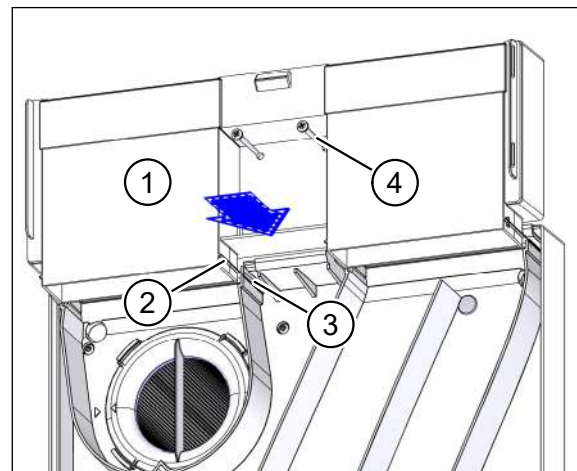

Fig. 43: Inserting the duct adapter and screwing in place
- ▶ Attach the duct adapter (item 1 in Fig. 43) so that the tabs (item 2 in Fig. 43) line up with the recesses (item 3 in Fig. 43) on the ventilation unit.
- ▶ Mark the holes for the two 4 x 40 cross-head screws (item 4 in Fig. 43) on the wall.